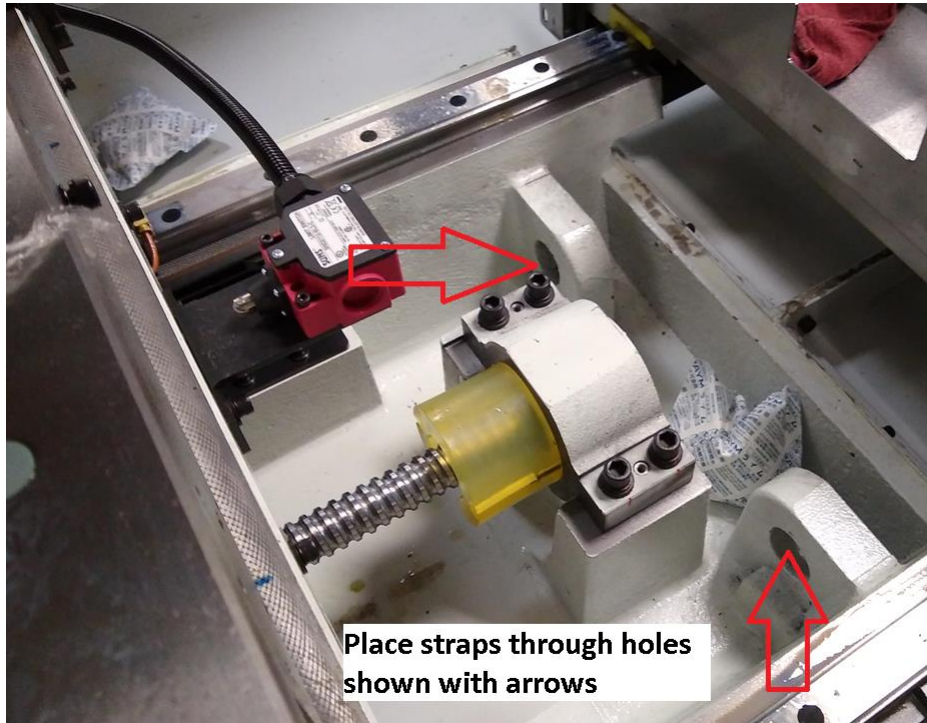

Figure 7 – Lifting Machine with Straps – Y Axis Lift Points
- To move the machine while on the pallet, a 15000 lb. forklift with a 24" load center & 6' fork extensions is required. Depending on the load center or rating of the forklift, a larger forklift may be required. The center of gravity (CG) of the machine while on the pallet is ~42" from the edge of the pallet.
- The TMC may be lifted via a crane with 4 points shown in figure 7 and 8.